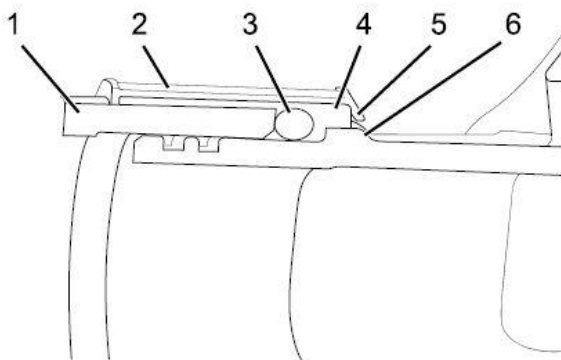

Figure 11: Exhaust Manifold Ring Seal Cross Section
Verify shield completely covers ceramic mat wrap, and ceramic mat wrap overlaps seal packing (Figure 11)
25. Install two shield halves with beveled flange (Figure 11, Item 5) covering seal packing (Figure 11, Item 3) end, and align shield joint with manifold midpoint.